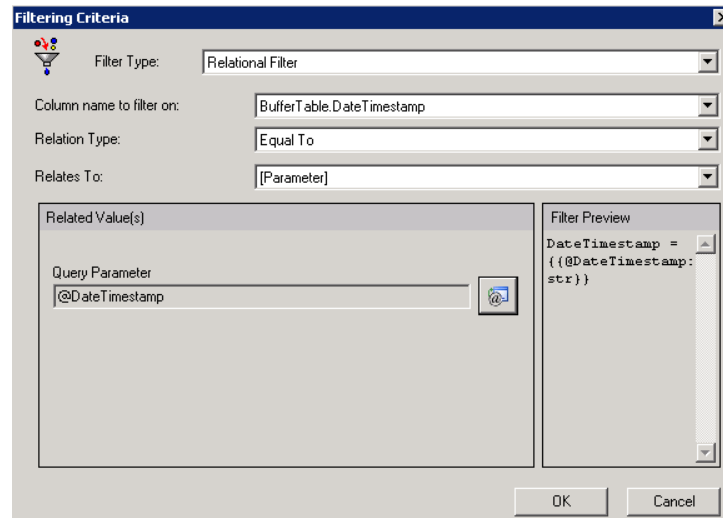

Figure L3.11 - SQL Query Builder
15. Under the Related Values(s) section of the dialog box, click on  to add a new input parameter. Name the input parameter **@DateTimeStamp**, as shown in Figure L3.11.